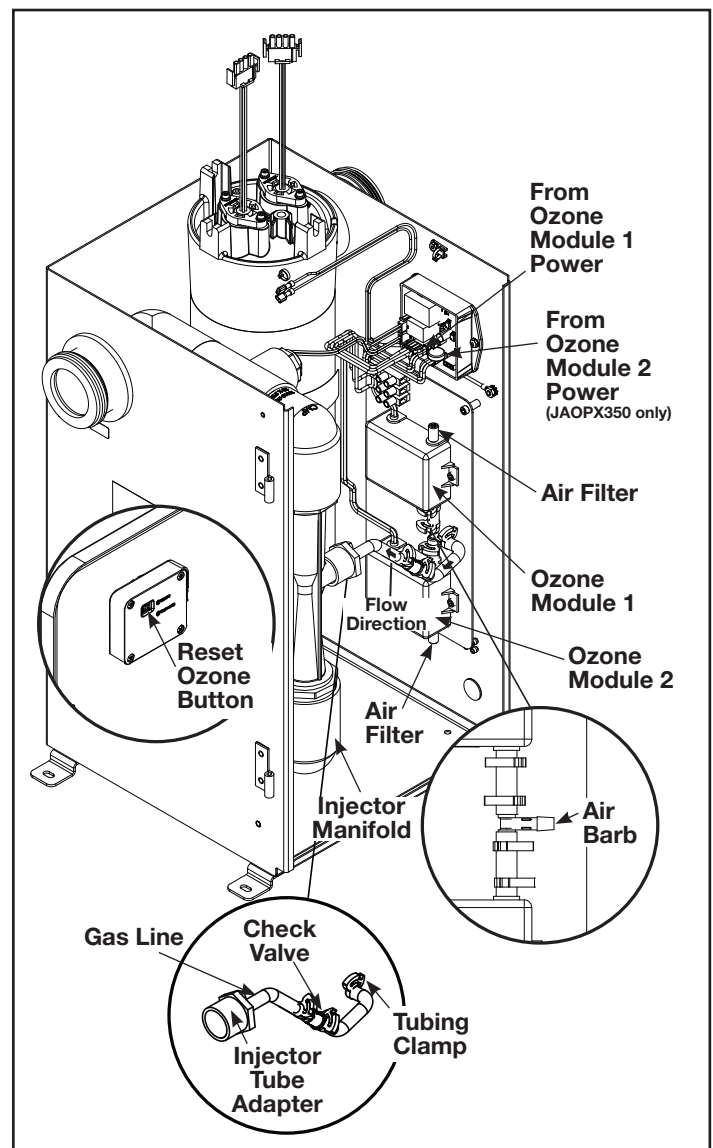

Figure 13. JAOPX200 / JAOPX350 Ozone Modules
- Reset ozone indicator by pressing the Reset Ozone button on the inside door behind the status LED indicators. See Figure 13 Reset Ozone Button inset.
- Loosen the tubing clamps on both ends of the ozone gas line. Remove the tubing assembly from the air barbs of injector tube adapter and the ozone output barb on the ozone module (used on model JAOPX200) or the T-fitting adapter (only used in model JAOPX350). See Figure 13 air barb inset.
- Orient ozone gas line as shown in Figure 13 (note flow direction callout), ensuring the gas flows towards the injector manifold. Re-connect onto the air barbs of the injector tube adapter and the ozone output barb on the ozone module (used on model JAOPX200) or the T-fitting adapter (only used in model JAOPX350). Use pliers to secure all clamps previously removed or loosened.
- Pull the tubing from injector tube adapter, then unthread the adapter from the injector manifold. See Figure 13 injector tube adapter inset.